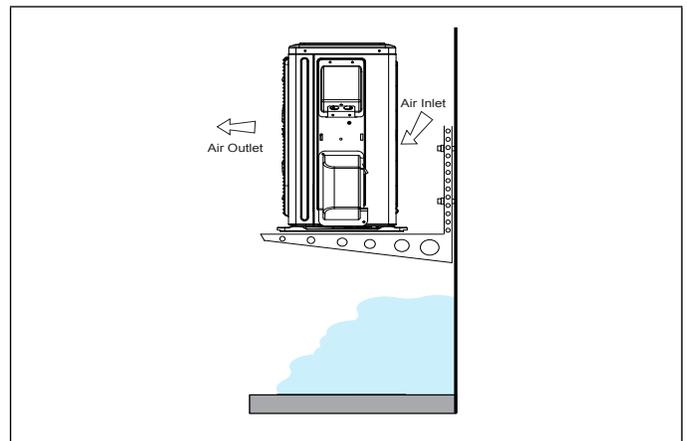

Figure 10. Outdoor Unit on Brackets above Snow Line
- The unit base should be elevated above the depth of average snows as illustrated in “Figure 10. Outdoor Unit on Brackets above Snow Line”.